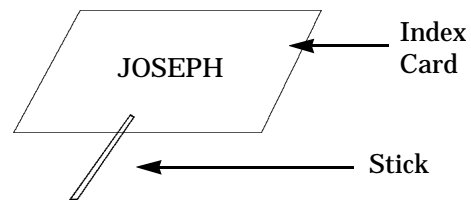

Figure 5
2. On an index card, print your name in bold, black letters. At the center bottom edge of the card, tape a 3 inch piece of a straw or a popsicle stick to the card as shown. (See Figure 5)